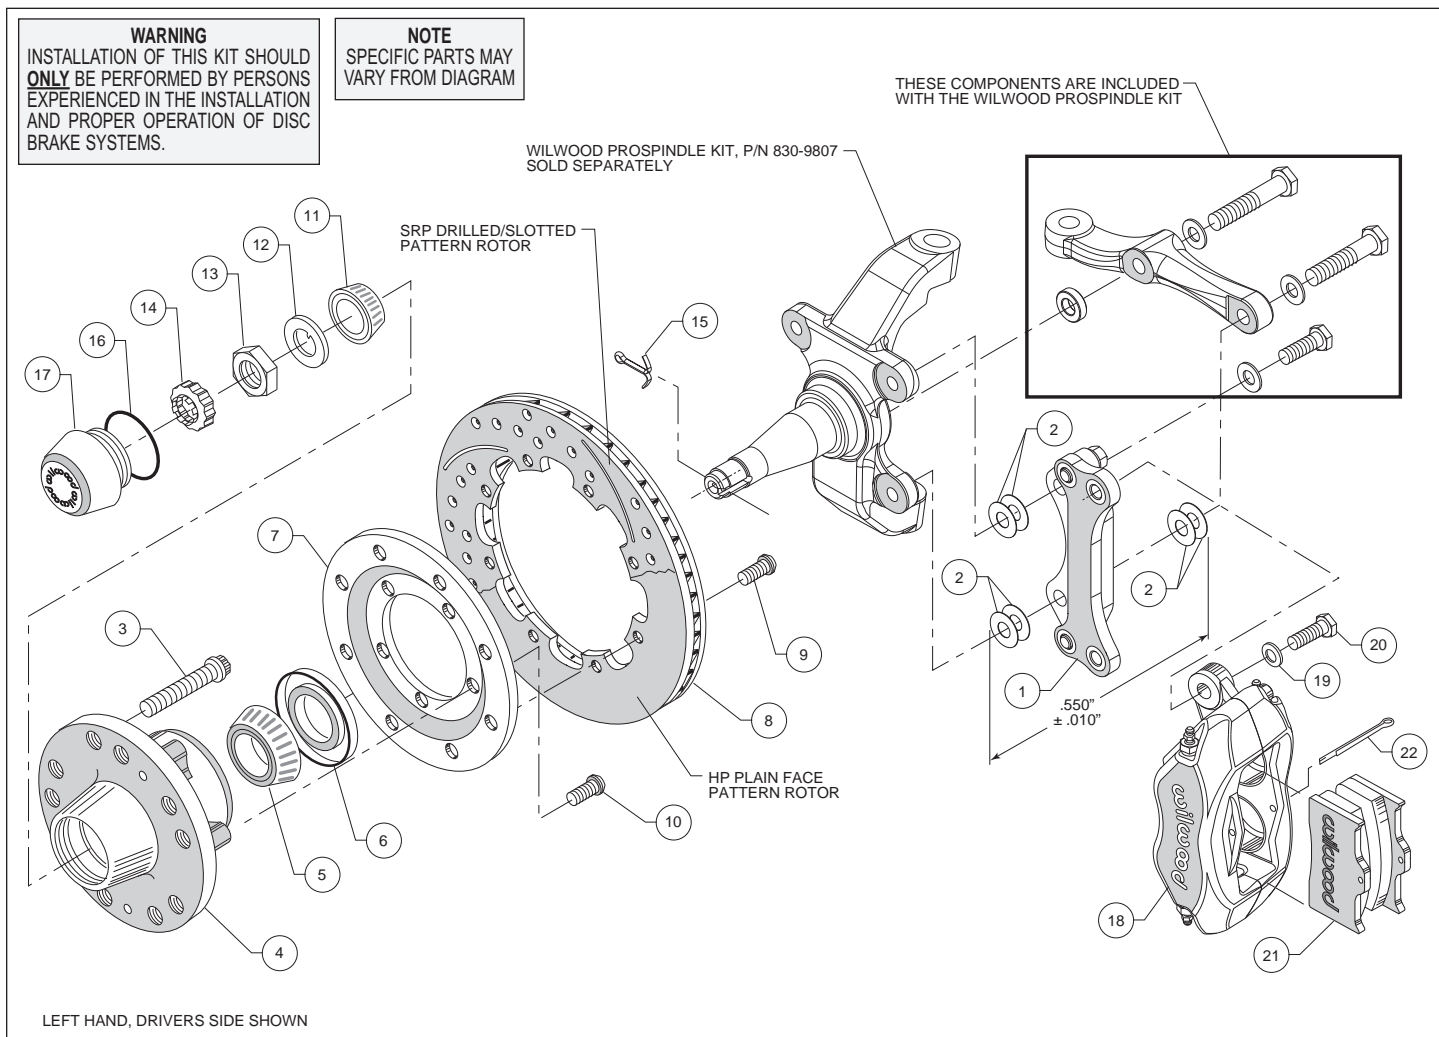

Figure 1. Typical Installation Configuration
- The caliper mounting bracket assembly (1) in conjunction with the Wilwood ProSpindle (P/N 830-9807, includes three mounting bolts, three washers, and a spacer, kit sold separately) should be installed first with clean, dry threads on the mounting bolts as follows:
- Install the bracket on the inboard side of the spindle by sliding the 1.25" long bolt from the ProSpindle kit through a flat washer, also from the ProSpindle kit, through the top hole of the caliper mounting bracket (1) and into the upper rear spindle mounting ear hole, do not tighten at this time. Use two thin shims (2) between the bracket (1) and spindle during initial trial fitting.
- Slide the 2.00" long bolt from the ProSpindle kit through a flat washer, through the rear (thinner end) hole on the steering arm, through two shim washers (2), through bottom hole of mounting bracket (1), through another two shim washers (2), and finally into the lower rear spindle mounting hole. The bracket (1) is positioned between the steering arm and the spindle for the bottom bolt installation. The bracket and shim washers for the lower rear mounting must be a thickness of $.550 \pm .010$ ". Again, do not tighten.
- Finish installing the steering arm assembly by sliding the 2.25" long bolt through flat washer, then through the front (thicker end) hole of the steering arm. Place the .25" thick spacer between the steering arm and the backside of the spindle. Snug all three bolts. The bracket must tighten squarely against the inboard side of the caliper mounting bosses on the spindle body. Inspect for interference from casting irregularities, machining ridges, burrs, etc. **NOTE:** *Be sure the heads of the caliper bracket (1) insert nuts are facing outward toward the wheel.*
- Install wheel studs (3) into the hub (4). Torque to 77 ft-lb. **NOTE:** *There are two lug patterns of five holes each in the hub (5 x 4.50 and 5 x 4.75). Make sure of the correct hole pattern for the wheel application before installing the studs into the hub.*
- Orient the rotor (8) and the rotor adapter (7) as shown in Figure 1. Attach the rotor to the adapter using bolts (9). Using an alternating sequence, apply red *Loctite*® 271 to the threads, and torque to 25 ft-lb.
- Mount the adapter/rotor assembly (7/8) to the hub (4) using bolts (10), as shown in Figure 1. Using an alternating sequence, apply red *Loctite*® 271 to the threads, and torque to 45 ft-lb.
- Pack the large inner bearing cone (5) with high temperature disc brake bearing grease (available from your local auto parts store) and install into the backside of the hub (4).
- Install the grease seal (6) by pressing into the backside of the hub (4).
- Pack the small outer bearing cone (11) with high temperature disc brake bearing grease and install into front of hub (4). Slide the hub assembly (4, 5, 6 and 8) with outer bearing cone (11) onto the spindle. Secure using spindle washer (12), adjusting nut (13) and nut retainer (14). secure to spindle using cotter pin (15). Adjust bearing using a 12" wrench to tighten the adjusting nut while turning the rotor. When the rotor binds slightly, all the bearing parts are seated properly. Back of the nut 1/6 to 1/4 of a turn or enough to allow 0.001 to 0.007 end play. Lock the nut with a new cotter pin. **WARNING:** *Failure to back off the adjusting nut may cause the bearing to run hot and be damaged, which could cause the wheel to lock or come off during operation, creating a risk of serious bodily harm.*
- Install the o-ring (16) and the dust cap (17) onto the hub (4). Friction created by the o-ring (16) on the dust cap (17) keeps it from unscrewing on its own.